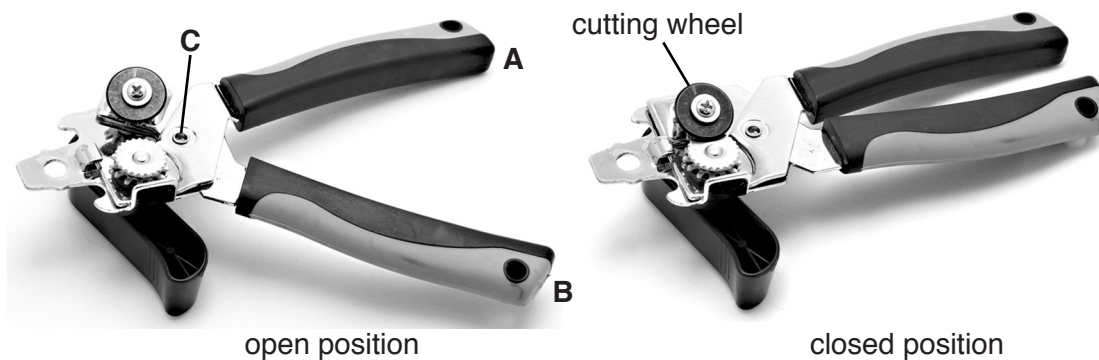

Fig. 3
- 4 Fig. 3 shows a can opener in the open position and in the closed position.
- (c) Draw force arrows on Fig. 3 to show where effort should be placed on grips **A** and **B** to apply the maximum load at the cutting wheel. [2]